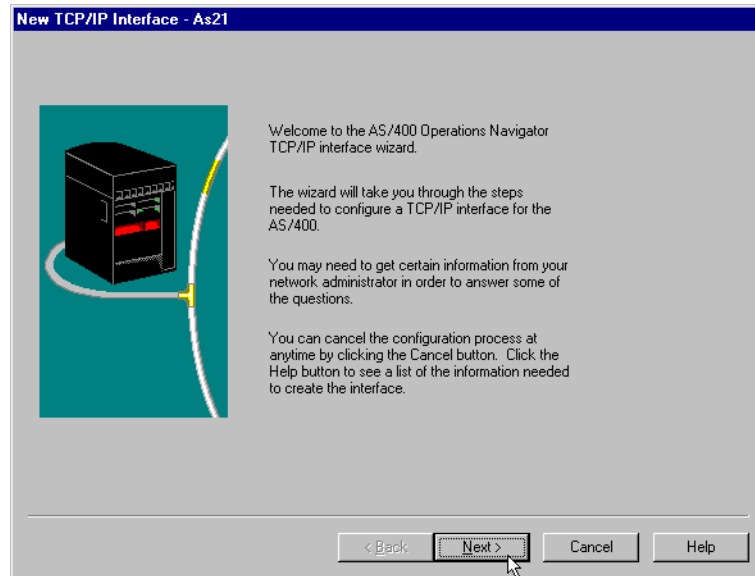

Figure 335. TCP/IP Wizard Interface
2. Follow the wizard's instruction to configure your TCP/IP route. Figure 335 shows the first window of the TCP/IP Interface wizard.